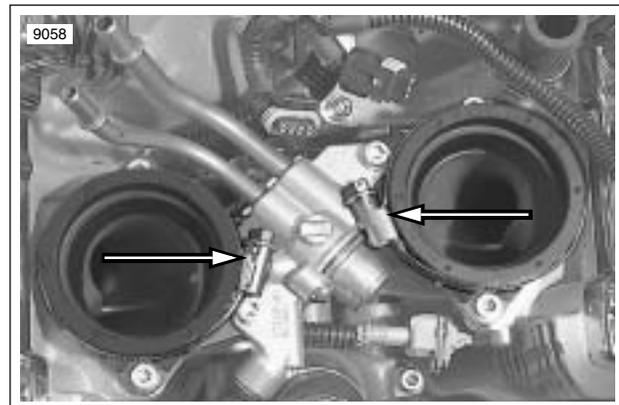

Figure 1-87. Intake Clamps, Throttle Body Removed
40. See Figure 1-87. Orient intake clamps as shown.
44. Attach the throttle position (TP) sensor.